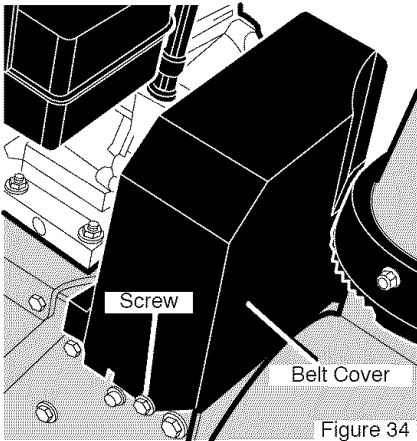

Figure 34
3. Remove **screw** from **belt cover**. Remove **belt cover** (see Figure 34).